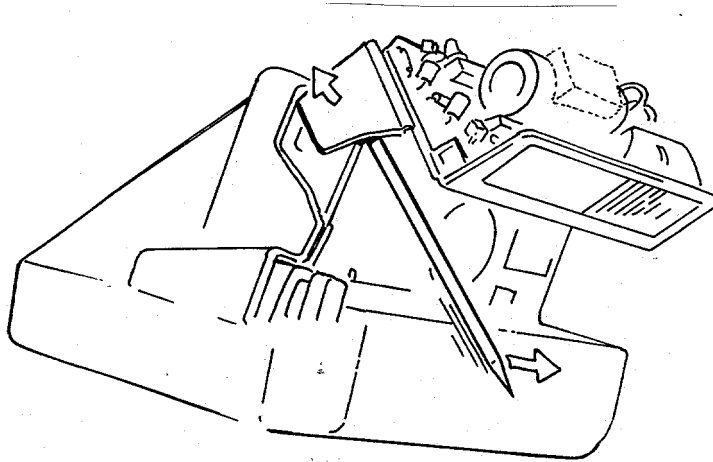

Fig. 3 Removing Lower Housing
3. With Strobe tilted downward at a 45-degree angle, remove Lower Housing Assembly using a soldering aid tool (greenstick). Carefully spring out sides as shown in Fig. 3 (Flex remains connected to Lower Housing).